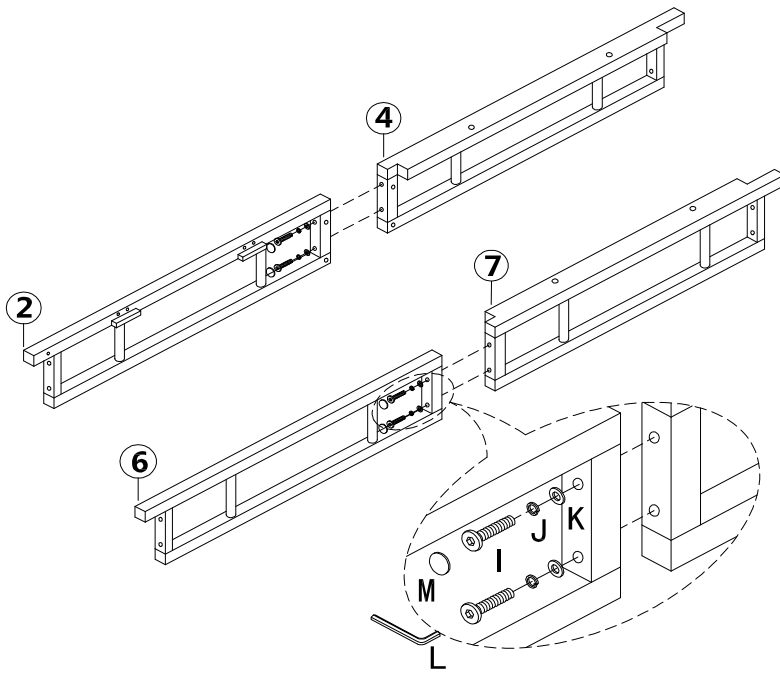

Figure 1
Attach assembled unit from Figure 1 to Left Side Frame (1), Middle Frame (3), and Right Side Frame (5) using Bolts (I), Spring Washers (J), and Flat Washers (K).